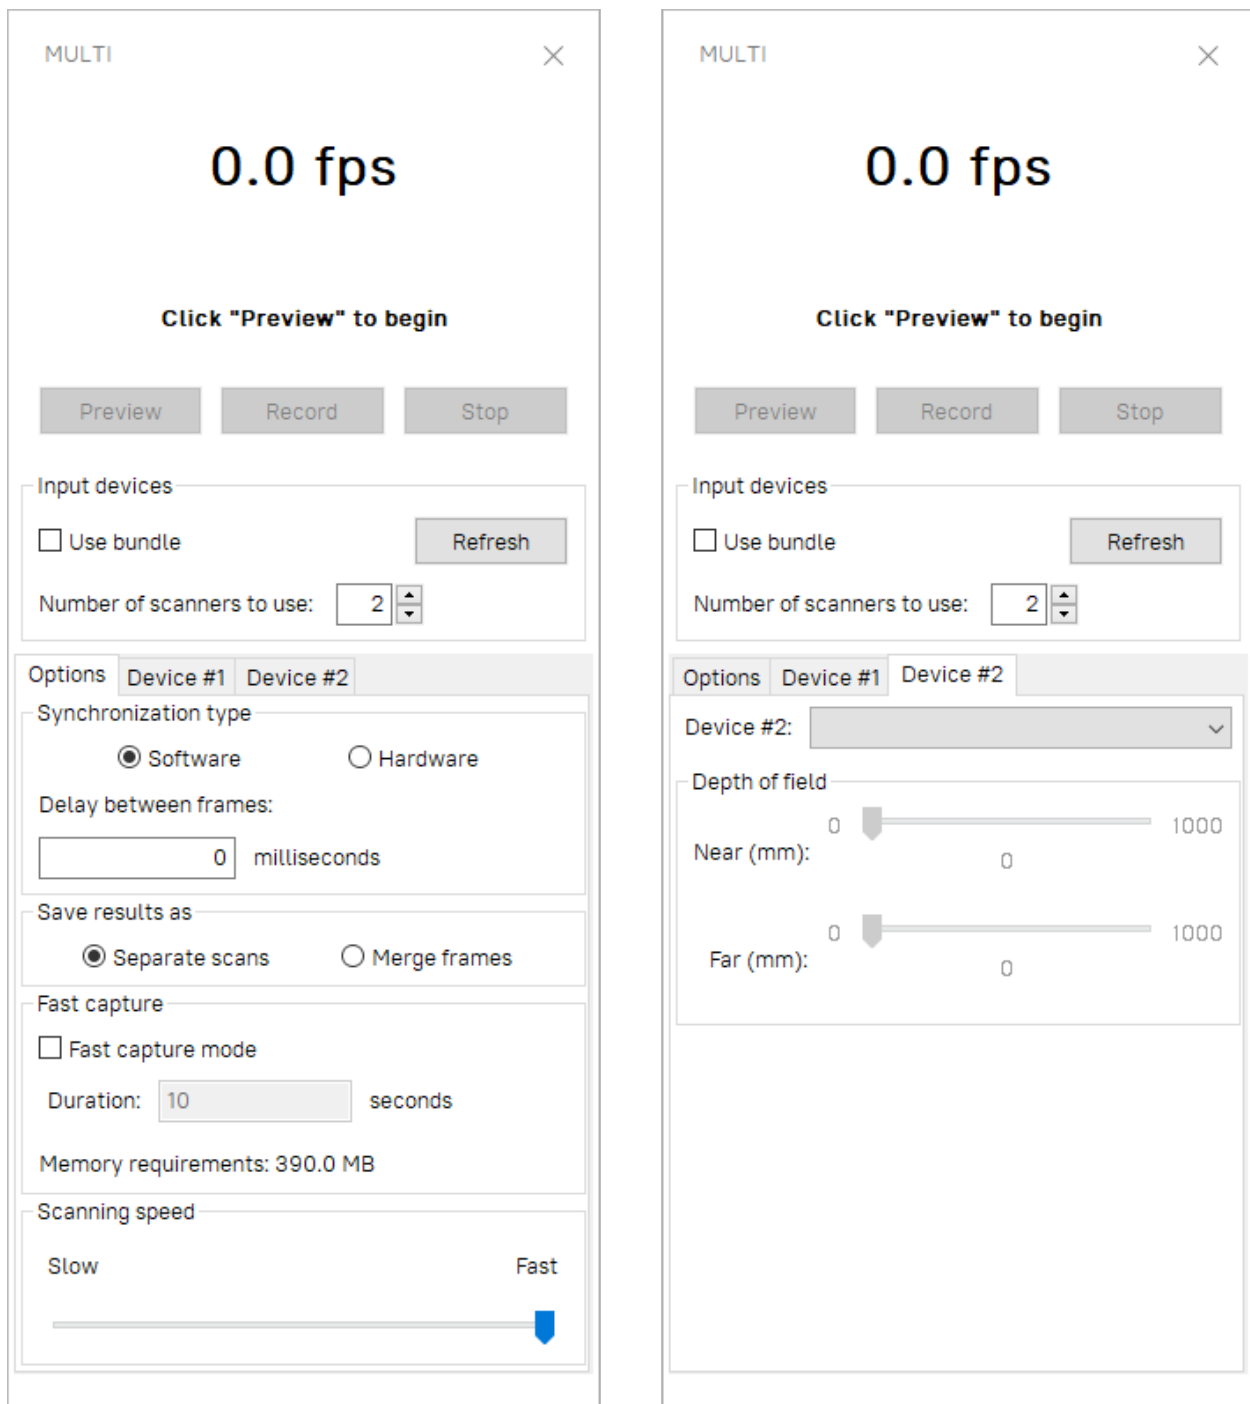

Figure 176: Multicapture panel: *Options* tab on left, *Device* tab on right.
1. Select *File* → *Multicapture (bundle)*. The panel will open (see Figure 176).
Sometimes, limiting the cameras' field of view is necessary (e.g., to cut off extraneous distant objects). Two sliders in the *Depth of field* area set the near and far scanning boundaries. The application sets work-area boundaries for each device independently in the device tabs (see Figure 176, right). By default, the minimum and maximum boundary values for the corresponding device type are set to the recommended range; we encourage